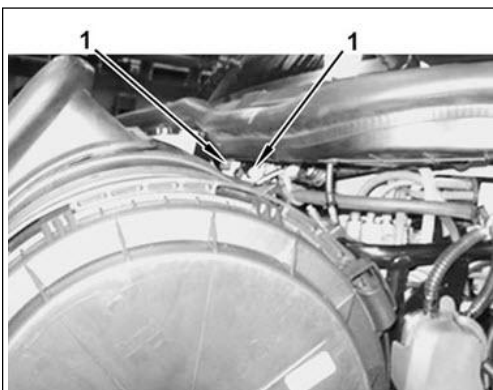

**Figure 22 - Air Cleaner Assembly**
27. Reinstall air cleaner assembly, install and tighten 2 nuts that secure air cleaner to framework (Figure 22, Item 1).